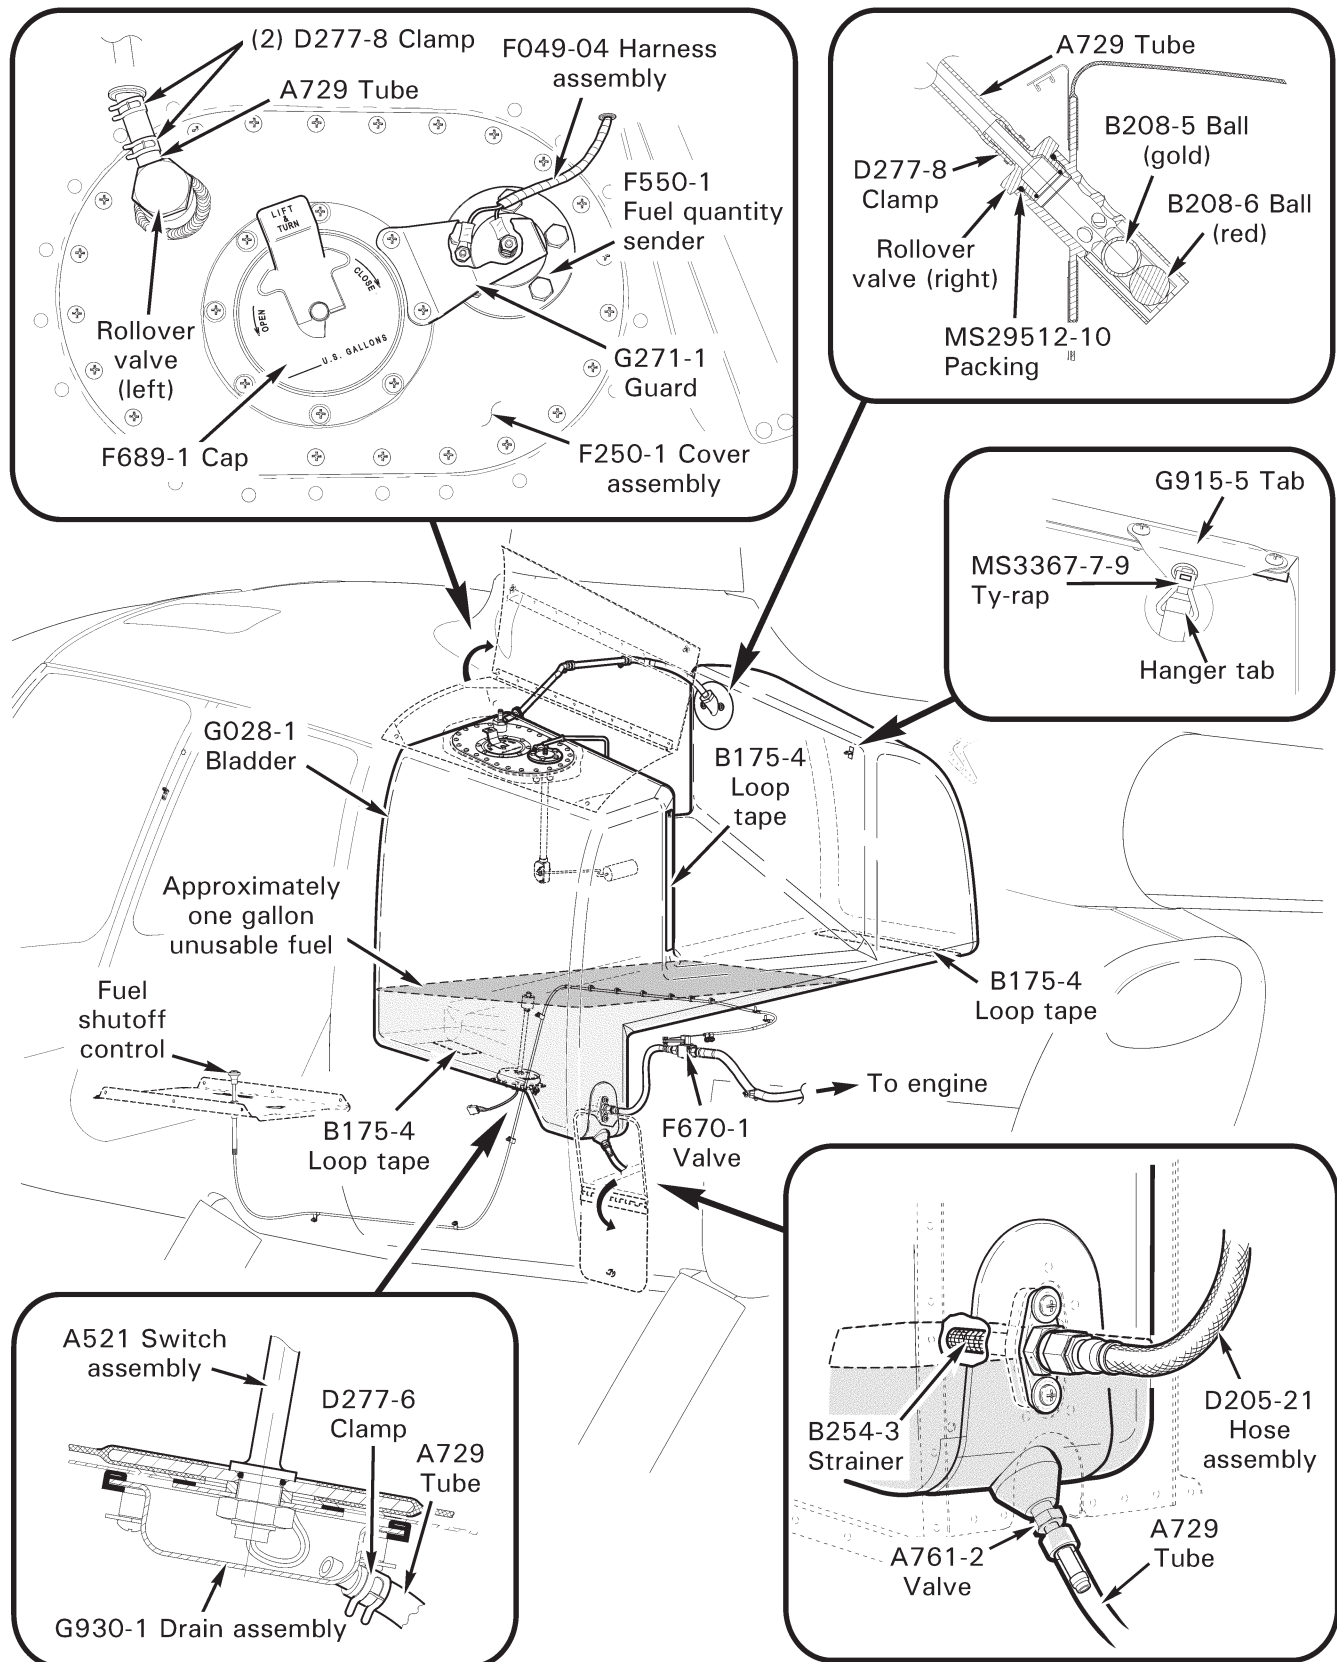

FIGURE 28-1 MAIN FUEL SYSTEM (STANDARD)
4. Refer to Figure 28-1. Remove D277-8 clamps or cut and discard safety wire securing A729 tube to left rollover valve and pull tube off of valve. Remove screws securing F250-1 cover assembly to G028-1 bladder assembly and F028-1 support assembly and remove cover. Remove and discard o-ring.
1. Refer to Figure 28-1. Dust exterior of G028-1 bladder assembly and F028-1 support assembly floor with talcum powder to facilitate bladder slippage along metal surface. Do not allow powder to enter bladder.
2. Refer to Figure 28-1. Remove D277-8 clamp(s) or cut and discard safety wire securing A729 tube to rollover valve and pull tube off of valve.
2. Refer to Figure 28-1. Cut and discard safety wire (if installed) securing A729 tube to A761-2 or 1250H (sump) valve and remove tube.
2. Refer to Figure 28-1. Lightly coat valve threads using B270-6 sealant. Remove tape and install valve in bladder outlet. Special torque A761-2 valve per § 20-33, or standard torque 1250H valve per § 20-32, and torque stripe per Figure 5-1.
2. a. Main tank: Refer to Figure 28-1. Remove screws securing G271-1 guard to F250 cover assembly and remove guard.
3. a. Main tank: Refer to Figure 28-1. Remove tape and carefully lower F550-1 fuel quantity sender lever through F250-1 cover assembly opening.